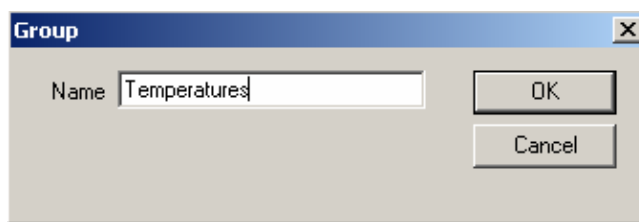

Figure 4.5. Naming the New Group
2. This opens the **Group** dialog box. Name the group "Temperatures," as shown in **Figure 4.5**. Click **OK**. The new group will appear under the **PLCSim** device.